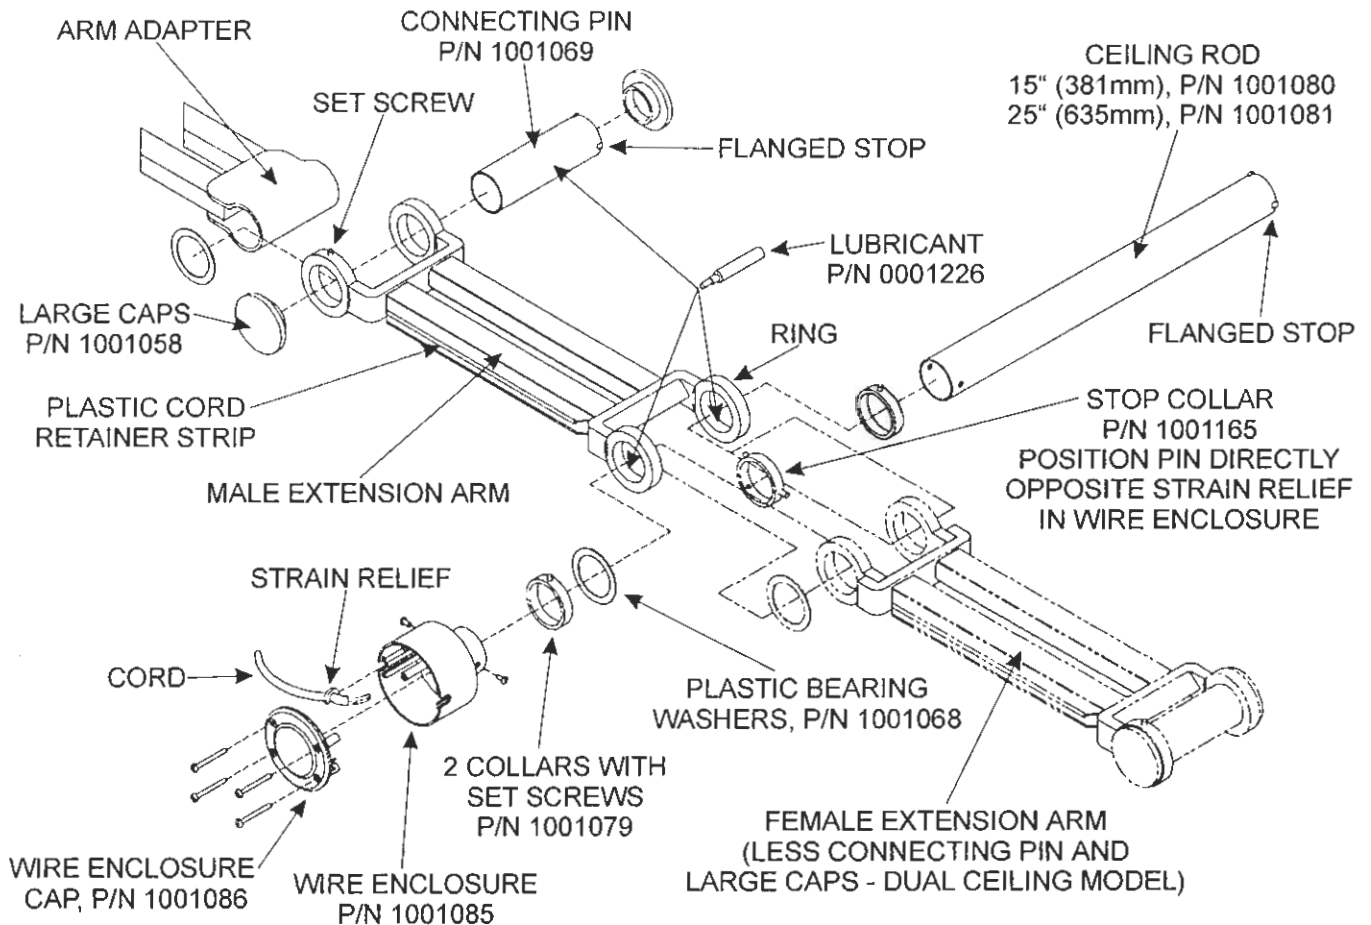

Figure 6
1. Prior to installation, the Ceiling Rod Assembly must be fully disassembled in accordance with Figure 6.
6. **NOTE:** One end of the Extension Arm contains a set screw (see Figure 6). The end of the Extension Arm **without** a set screw will slide onto the Ceiling Rod.
NOTE: (Double Head Models) Position the Female Extension Arm Rings between the Male Extension Arm Rings. Place a plastic bearing washer between the lower rings of the Male and Female Extension Arm Assembly (see Figure 6). The Stop Pin on the Stop Collar should be positioned 90° from the extension arms.
7. Slide a plastic bearing washer (to allow proper arm motion) and then the remaining collar on the Ceiling Rod. Tighten the set screw in the collar to support the Extension Arm. Insert the Wire Enclosure into the end of the Ceiling Rod and then secure it with the two screws provided (see Figure 6).
8. Apply a thin film of the lubricant to the outer surfaces of the Connecting Pin (see Figure 6).
11. Insert the electrical cord from the Head and Arm Assembly into the Plastic Cord Retainer Strip on the Extension Arm. Leave enough cord between the Head and Arm Assembly and the Extension Arm to allow the arms to rotate (see Figure 1). Thread the cord into the Wire Enclosure. Insert the Strain Relief on the cord into the slot in the Wire Enclosure (see Figure 6). Connect the wires to the power supply line already in the Wire Enclosure. All wiring connections must comply with local electric codes. Replace the Wire Enclosure Cap. Secure it with the four included screws.